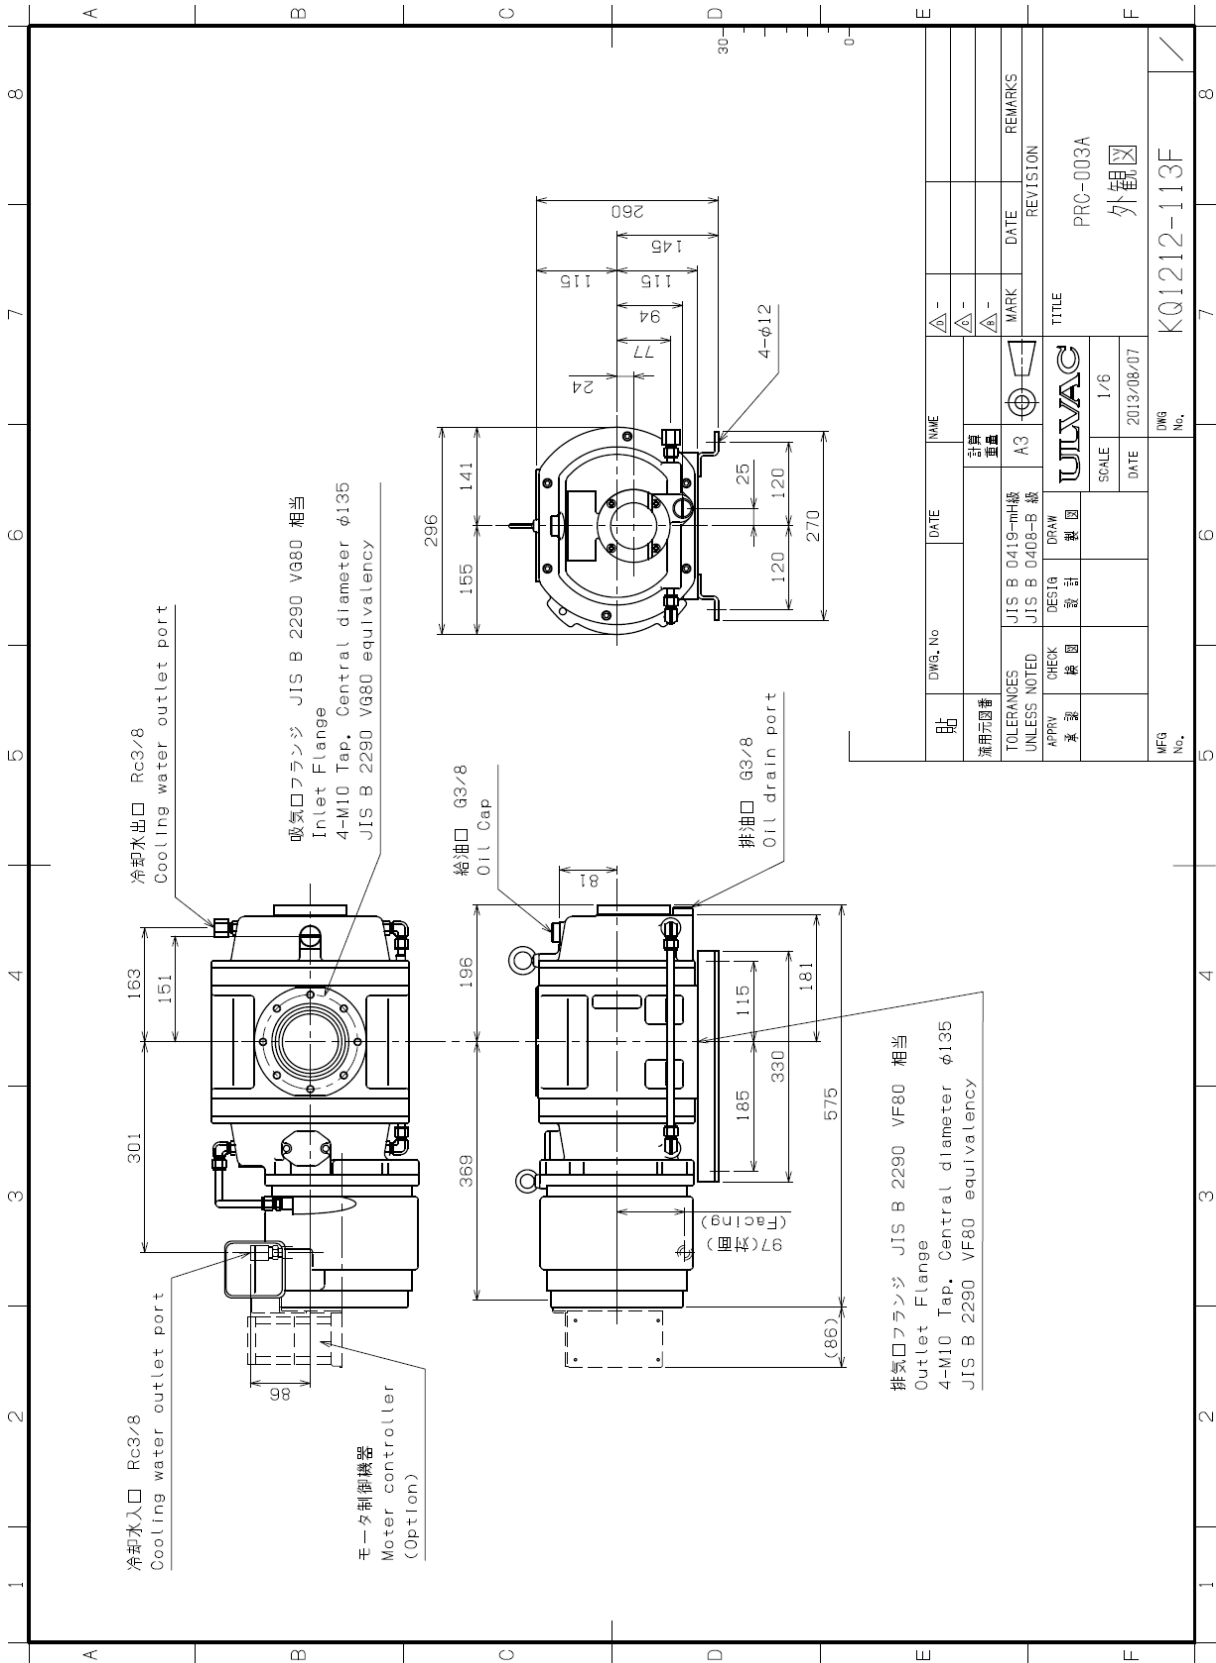

Fig. 3 PRC-003A Dimensional drawing
**Operating the pump on laying it down or putting it reverse would give damage to the pump. Ensure to install the pump horizontal to the ground level as illustrated on the Fig. 3 ~ 6.**